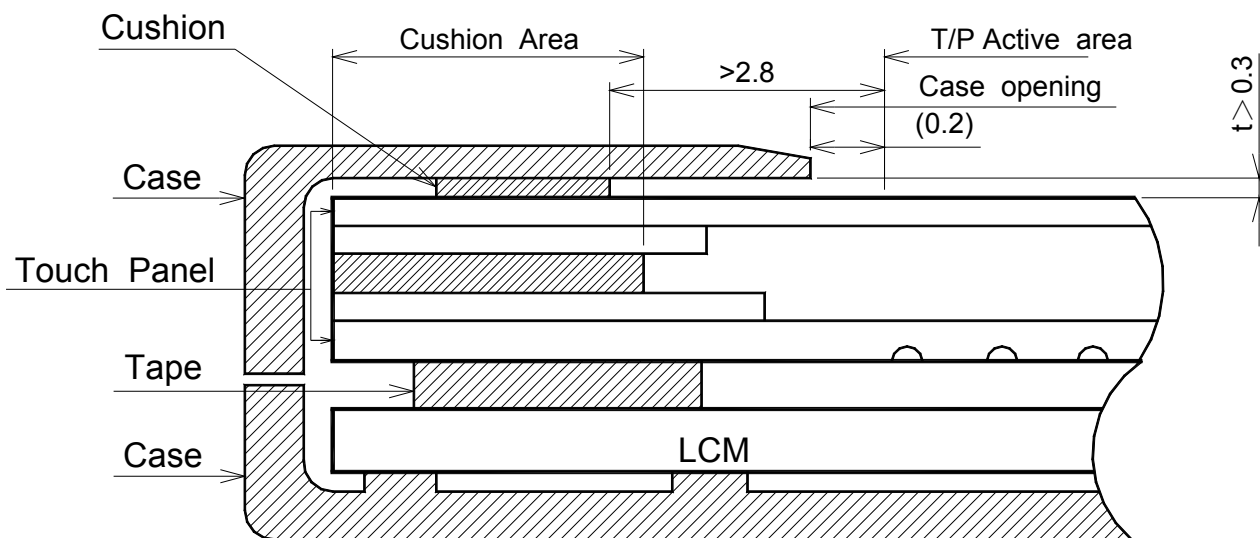

Fig 13.1
- 1) Please refer to Fig. 13.1 for housing the display with touch panel into applications. The Fig. 13.1 shows some points as below: